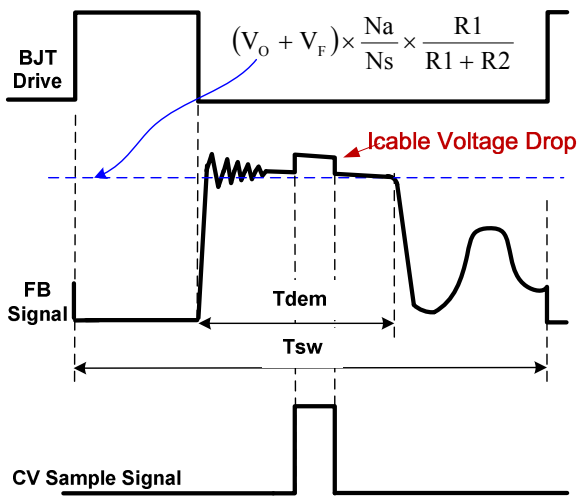

Fig.2
In primary side control, the output voltage is sensed on the auxiliary winding during the transfer of transformer energy to the secondary. Fig.2 illustrates the CV sampling signal timing waveform in DP2525. As shown in Fig.2, it is clear that there is a down slope representing a decreasing total rectifier V_f and its voltage drop as the secondary current decreases to zero. To achieve an accurate representation of the secondary output voltage on the auxiliary winding, the CV sampling signal blocks the leakage inductance reset and ringing. When the CV sampling process is over, the internal sample/hold (S&H) circuit captures the error signal and amplifies it through the internal Error Amplifier (EA). The output of EA is sent to the Primary Side Constant Voltage Modulator (PSR-CVM) for CV control. The internal reference voltage for EA is trimmed to 2V with high accuracy.
During the CV sampling process, an internal variable current source is flowing to FB pin for Cable Drop Compensation (CDC). Thus, there is a step at FB pin in the transformer demagnetization process, as shown in Fig.2. Fig.2 also illustrates the equation for “demagnetization plateau”, where V_o and V_f is the output voltage and diode forward voltage; R_1 and R_2 is the resistor divider connected from the auxiliary winding to FB Pin, N_s and N_a are secondary winding and auxiliary winding respectively.